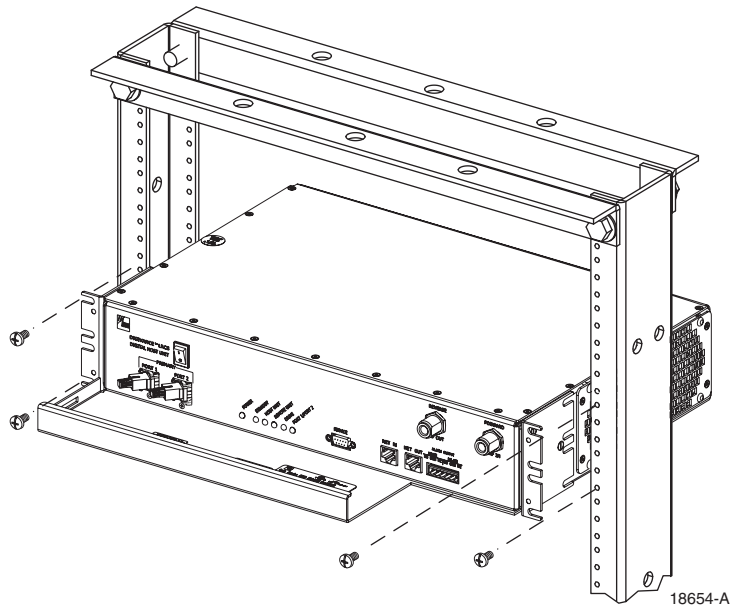

Figure 3-6. HU Rack Mount Installation
4. Position the HU in the designated mounting space in the rack (per system design plan) and then secure the mounting brackets to the rack using the four machine screws provided (use #12-24 or M6 x 10 screws, whichever is appropriate) as shown in Figure 3-6.